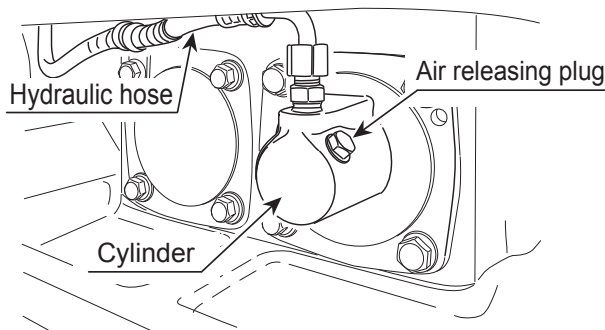

Figure 26. Removing Hydraulic Hose
3. Remove the hydraulic hose connected to the cylinder on the vibrator side (Figure 26).
9. Remove the air releasing plug of vibrator cylinder. Oil will then come out from the air releasing plug. After air bubbles stop coming out, reattach the plug. Tighten securely (Figure 26).